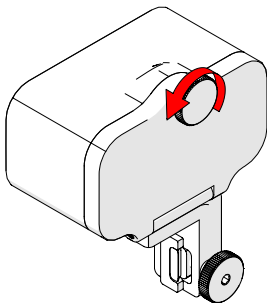

Fig. 33 - Unscrew battery door knob
1. Unscrew the knob of the battery compartment (Fig. 33).